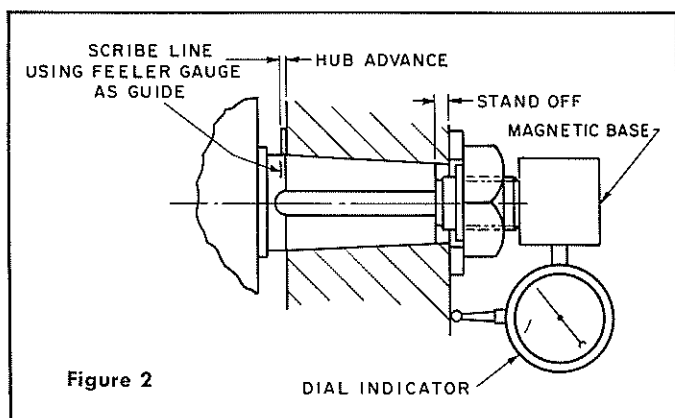

Figure 2
**4. COLD DRAW METHOD** — Assemble and seat hub on shaft by tapping with a soft mallet. Assemble lockwasher and nut but DO NOT tighten at this time. Proceed, using either method (A) or (B) as follows: (A) Mount dial indicator as shown in Figure 2 and set dial to zero. Use an open end wrench to tighten nut until dial indicator reading is equal to the "Hub Advance" value for the motor size as indicated in Table 1. (B) Use a feeler gauge thickness equal to "Hub Advance" value indicated in Table 1 for the motor size as a guide to scribe a mark on the shaft as shown in Figure 2. Tighten nut until the hub lines up with scribe mark on the shaft.